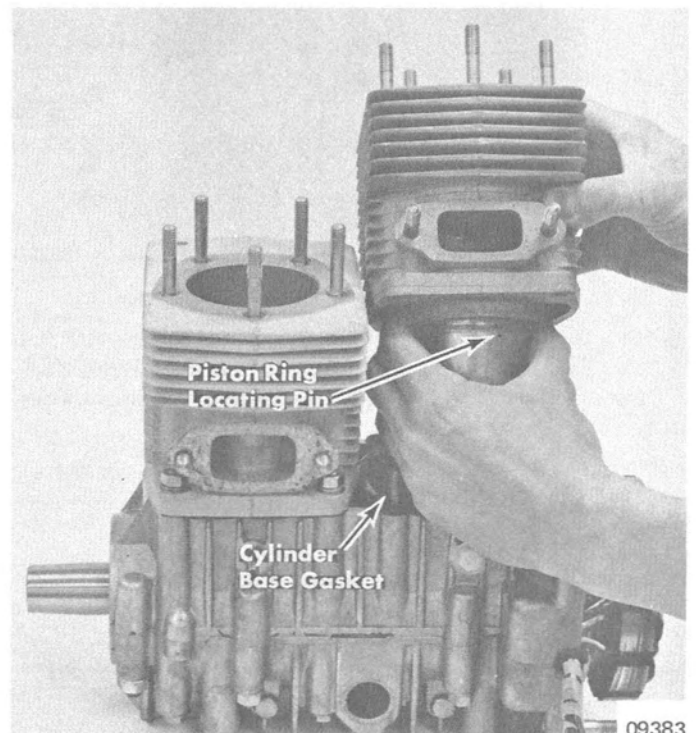

Figure 8. Installing Cylinder
3. Install No. 1 cylinder over No. 1 piston and No. 2 cylinder over No. 2 piston. Compress piston rings with fingers while installing each cylinder over its respective piston. (Figure 8) Piston rings must be properly positioned with piston ring locating pins at piston ring gaps. Cylinders are